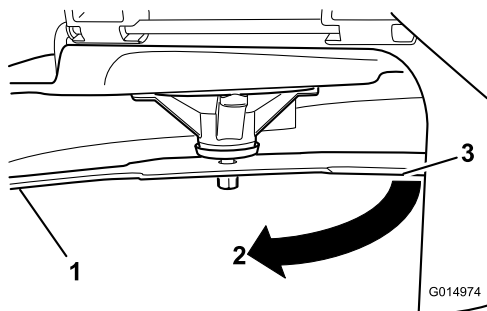

Figure 54
3. Second measured distance between blade and surface (B)
4. Rotate the same blade 180 degrees so that the opposing cutting edge is now in the same position (Figure 54).